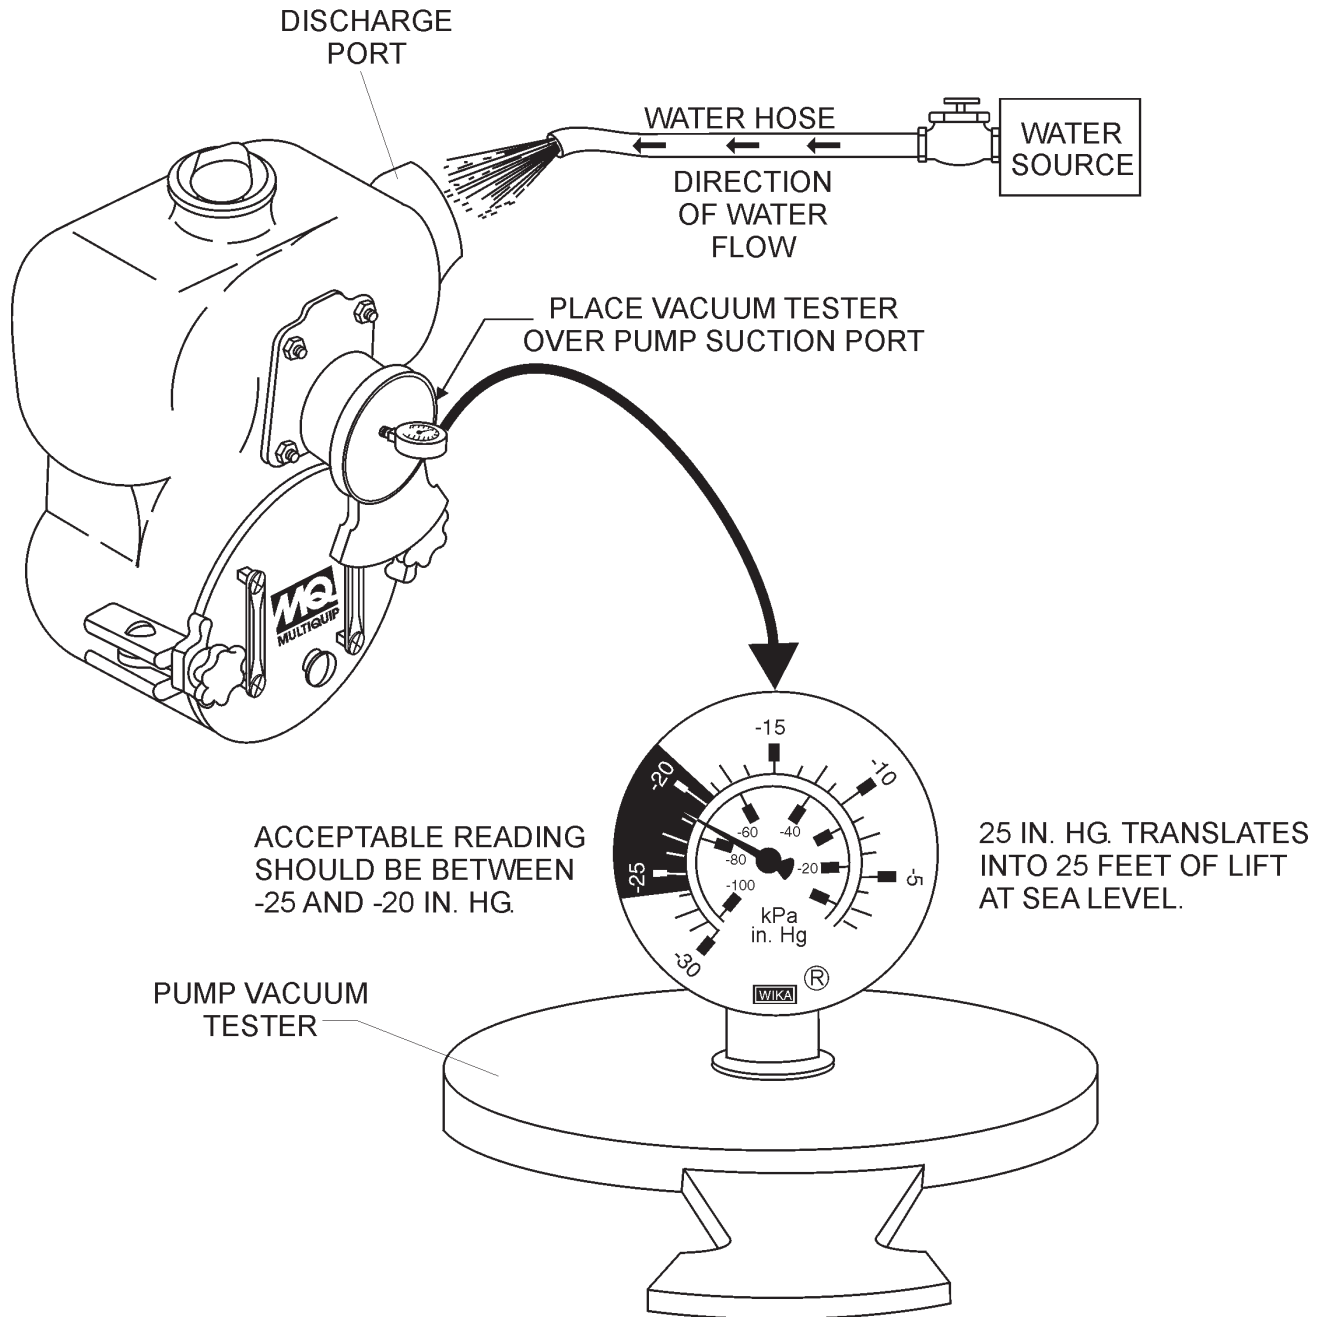

Figure 18. Pump Vacuum Tester
4. Place the **Pump Vacuum Tester** (P/N 7000030) over the pump suction (inlet) opening (Figure 18) with the vacuum gauge facing upwards. It may be necessary to apply a small amount of water around the rubber seal of the vacuum tester to make a good suction fit.